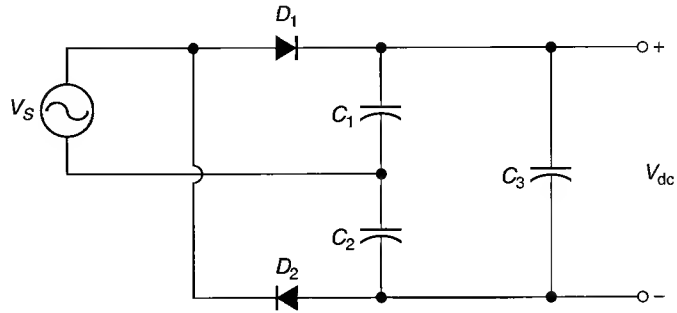

FIGURE 4.39
- 24.** The circuit shown in Figure 4.39 has a 24 V_{pk} input signal. Determine the values of V_{C1} , V_{C2} , and V_{C3} for the circuit. Assume that the diodes are ideal components.
- 25.** The circuit shown in Figure 4.39 has a 25 V_{ac} input signal. Determine the values of V_{C1} , V_{C2} , and V_{C3} for the circuit. Assume that the diodes are ideal components. (*Be careful on this one!*)